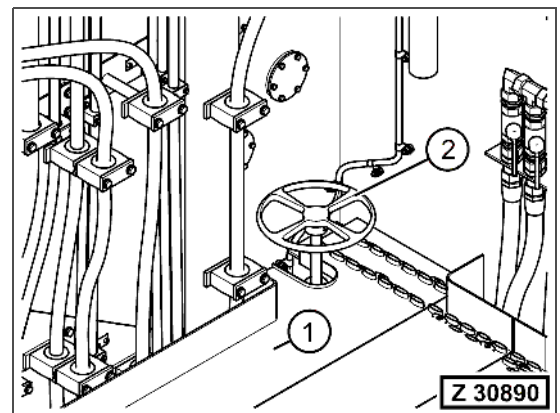

Fig. 3-262
4. Install the grid (Fig. 3-262, Pos. 1) below the hand wheel (Fig. 3-262, Pos. 2) at the main shut-off valve.